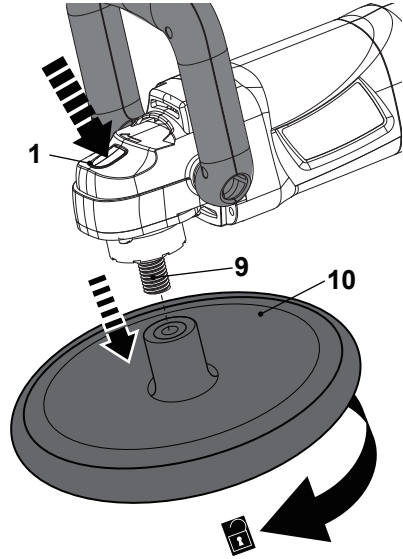

Fig. 3
- > Press the spindle lock button (1) and turn the backing disc (10) until the spindle (9) locks in place.
- > Keep the spindle lock button (1) pressed and unscrew the backing disc (10) (Fig. 3).
- > Attach a new or another backing disc (10) as described above.